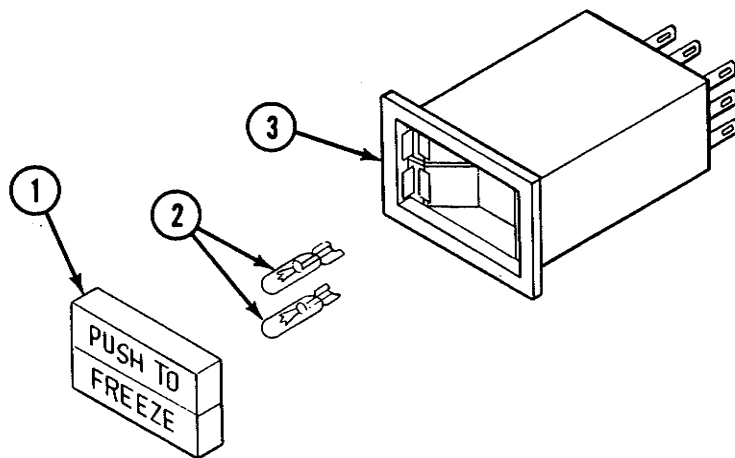

Figure 63. Push To Freeze Light/Switch Assembly
- B. Remove the faulty lamp by pulling out the lamp puller. (See Fig. 63.)